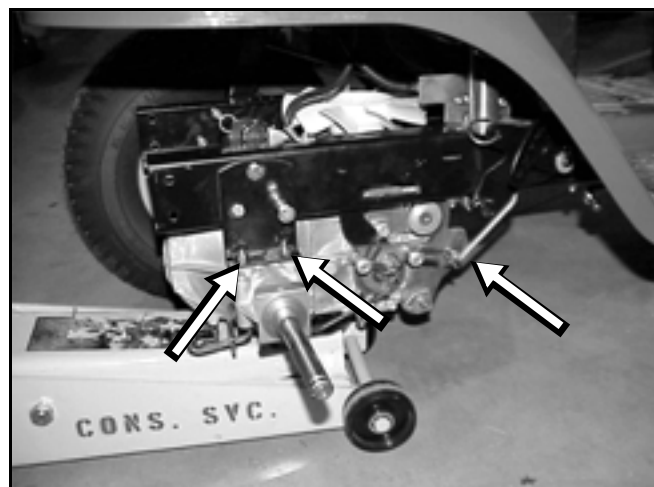

Figure 129
1. Raise the transaxle to the frame and install the 4 axle bolts, washers, and nuts. Install the torque strap nut (Figure 129).